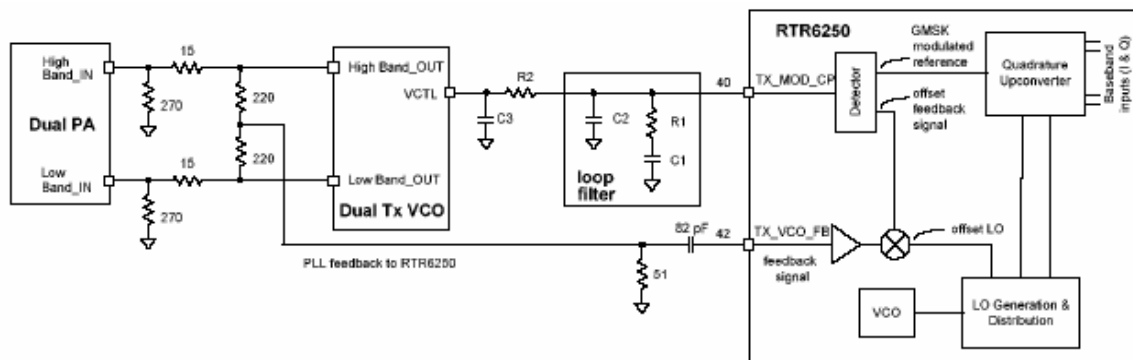

Figure 3.2.2-1 Offset phase-locked loop interfaces
The shared GSM Low-band (EGSM900) and High-band (DCS1800, PCS1900) transmit path begins with the baseband inputs from the MSM6250A IC. These differential analog input signals are buffered, lowpass filtered, corrected for DC offsets then applied to the GSM quadrature upconverter. The upconverter LO signals are generated from the transceiver VCO signal by the LO distribution and generation circuits within RTR6250. This upconverter translates the GMSK-modulated signal to a convenient intermediate frequency (IF) that forms one input to a frequency/phase detector circuit. This IF signal is the reference input to an offset phase-locked loop (OPLL) circuit as shown in Figure 3.2.2-1.